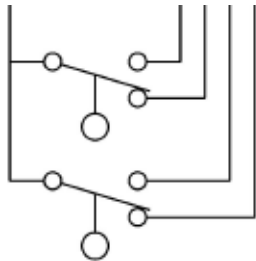

Fig. 3
2. SPDT reed switch: Connect wiring to proper switch leads or terminals per wiring diagram. See figure 3 or 4.